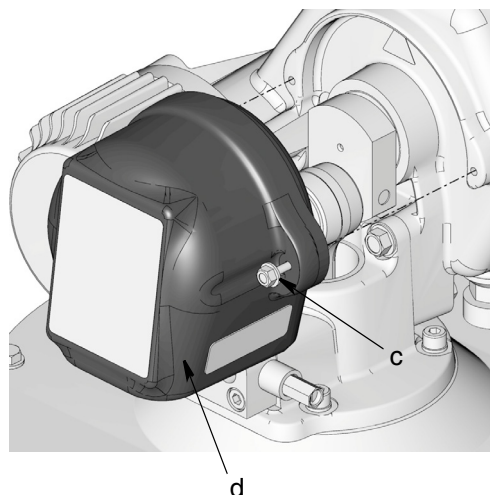

FIG. 3
5. Loosen bolts (c) and remove cover (d) from Dyna-Star pump (FIG. 3).